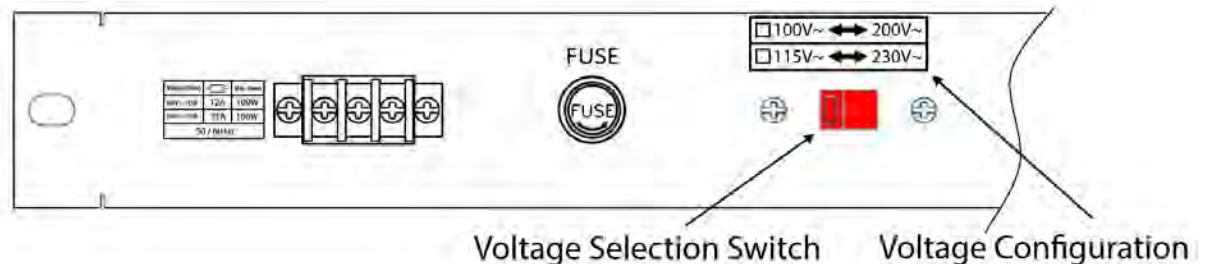

Figure 5-2: AC Input Voltage Selection
2. Refer the drawing on the rear panel of 5V Series Cabinet load in Figure 5-2, set the switches to the proper voltage as indicated below.